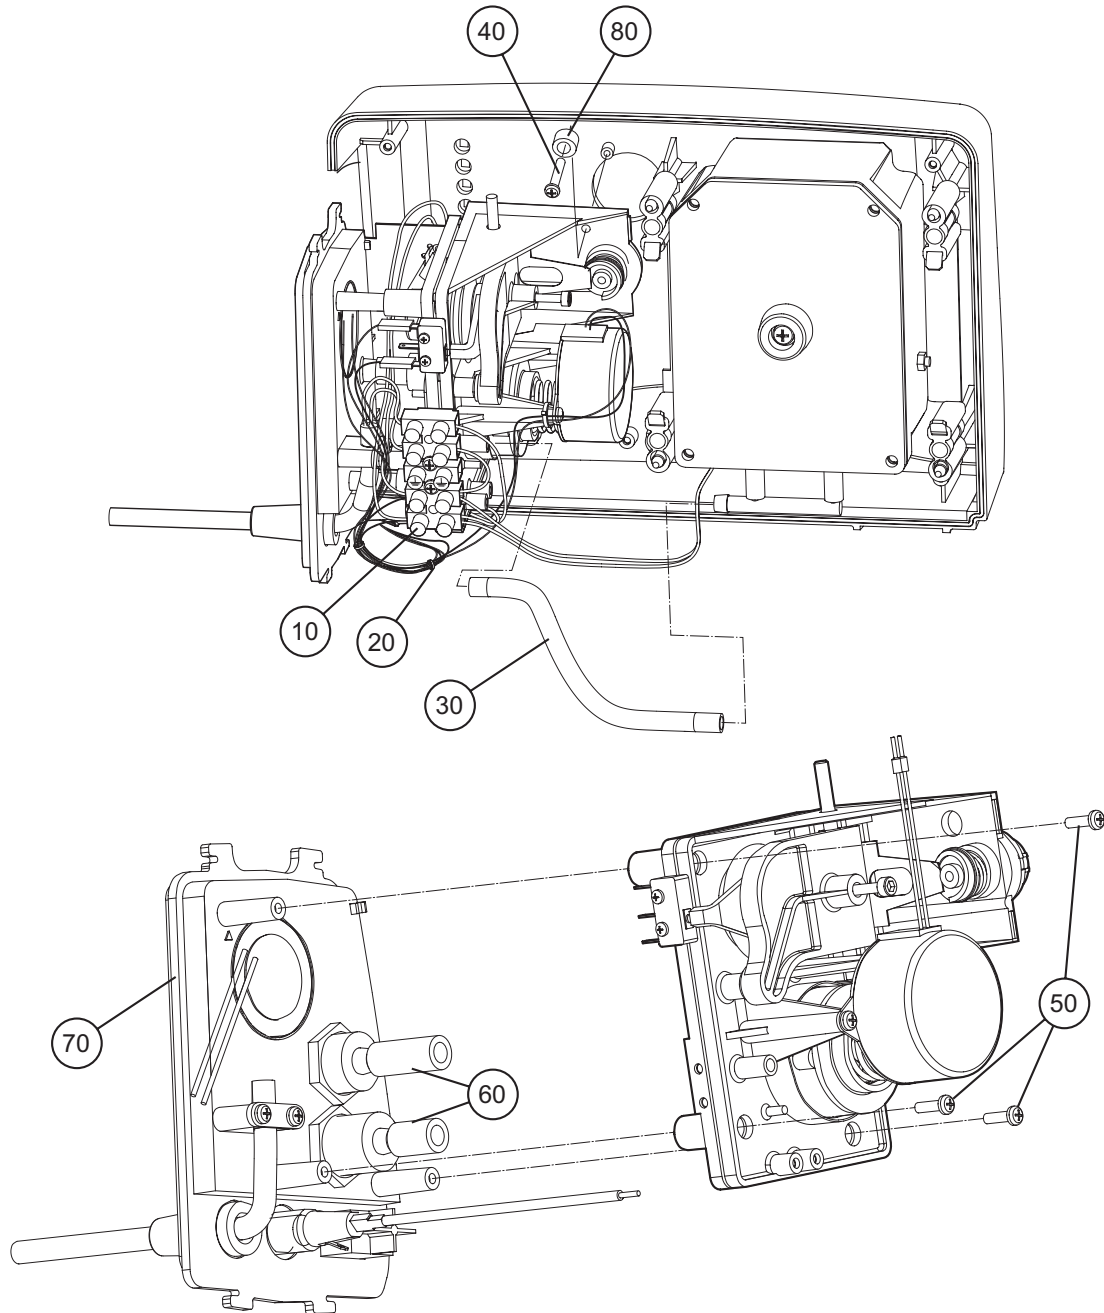

Figure 14 - Pressure Control Module
- 29.3 Remove the compressor wires (Fig 14, Item 10) from the terminal block (terminals 3 and 4). This also releases two switch wires.
- 29.4 Carefully cut the cables ties from the wiring loom as required (Fig 14, Item 20).
- 29.5 Remove the tube (Fig 14, Item 30) between the pressure control module and the 'F' connector.
- 29.6 Remove the module securing screw (Fig 14, Item 40) and the fixing cap (Fig 14, Item 80).
- 29.8 Disconnect the fuse wire from the terminal block (terminal 6) and disconnect the adjacent switch wire (terminal 5) (Fig 14, Item 10).
- 29.9 Disconnect the mains/power lead wires from the terminal block (terminals L and N) (Fig 14, Item 10).
- 29.10 Remove three screws (Fig 14, Item 50) and detach (pull off the pressure control module from the side panel assembly (Fig 14, Item 70).
- 32.1 Disconnect the indicator lead from the terminal block (terminal 2) (Fig 14, Item 10).